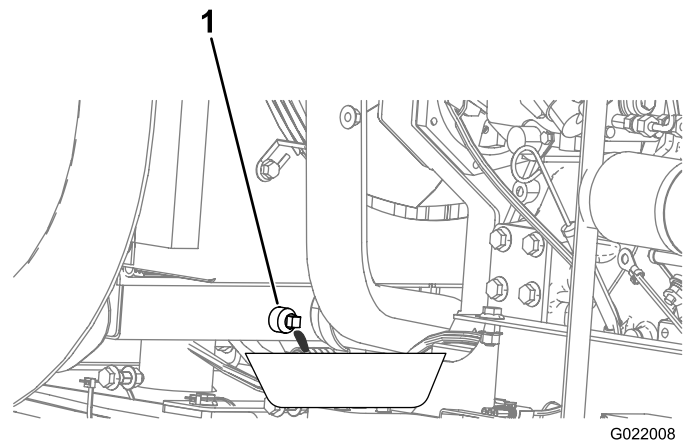

Figure 140
5. Place a drain pan under the drain plug (Figure 140).
8. Close the drain plug (Figure 140).
- C. Close the drain plug (Figure 140).
- H. Close the drain plug (Figure 140).